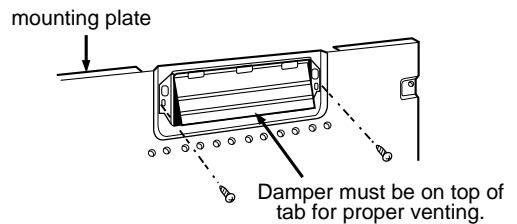

Figure 24
**NOTE:** If you are venting the oven through the wall, be sure you align the damper/connector on the rear of the mounting plate with the 3 1/4"x10" duct. Be sure the damper moves freely. See Figure 24.